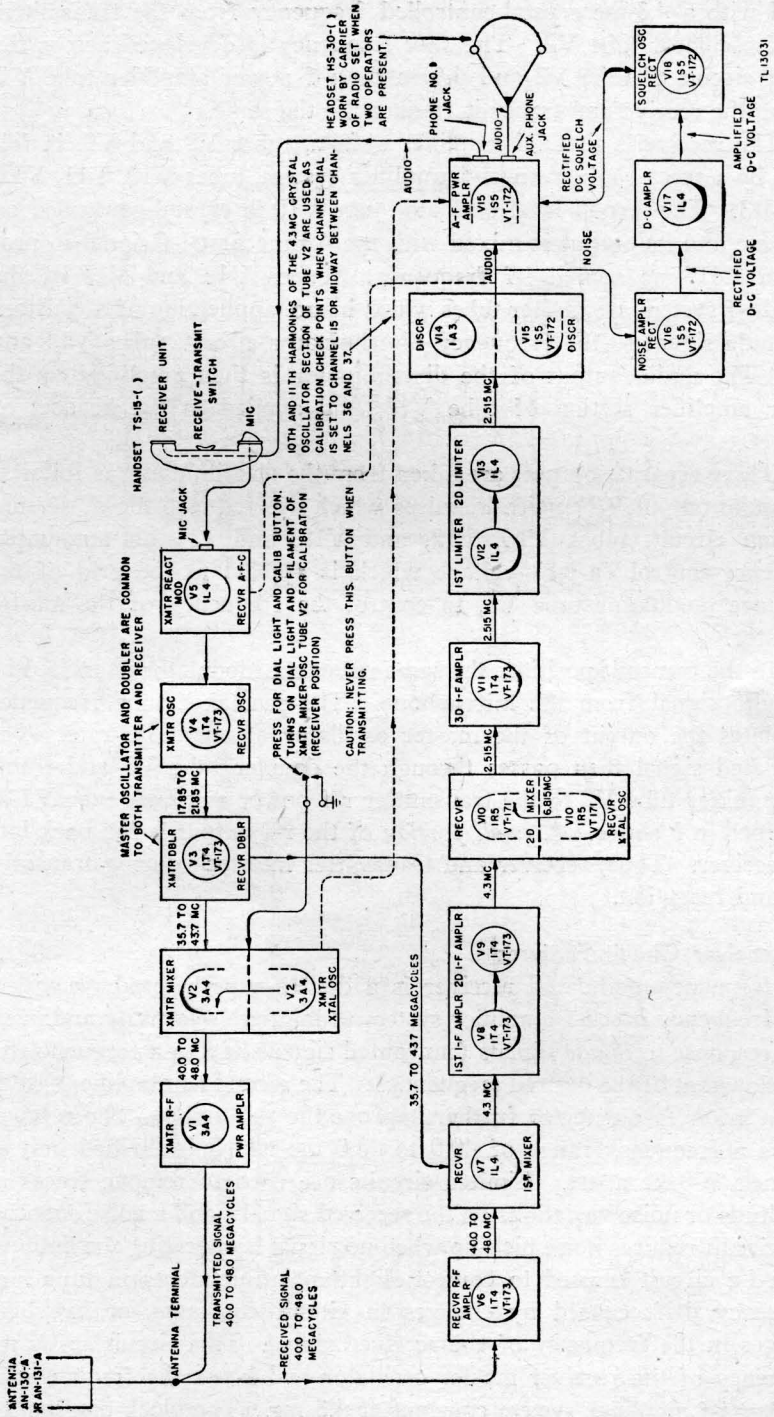

Figure 42. Radio Receiver and Transmitter BC-1000-A—block diagram.
*a.* Radio Receiver and Transmitter BC-1000-A consists of a number of interlocking circuits which provide rapid change-over from receive to transmit. The receiver and transmitter frequency is varied by a single tuning control. This makes it possible to change operating frequencies rapidly. The block diagram (fig. 42) shows the signal paths through the transmitter and receiver. The same antenna is used for both transmission and reception.